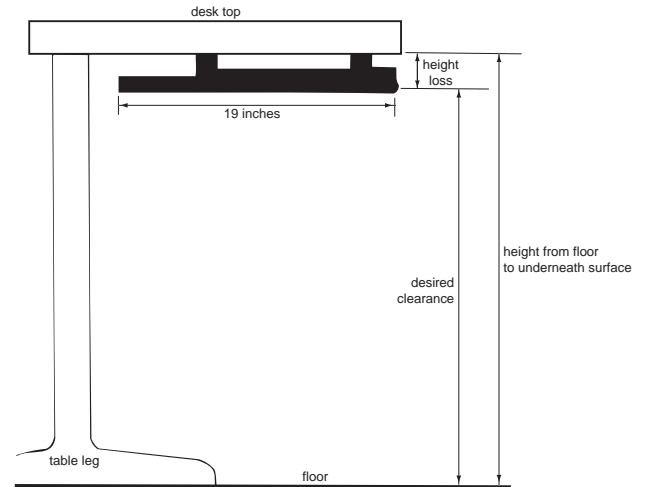

Figure 2
B. Alternatively, you may use Chart B and Figure 2 to determine what height is desired to allow a knee clearance or chair clearance, underneath the keyboard after installation.